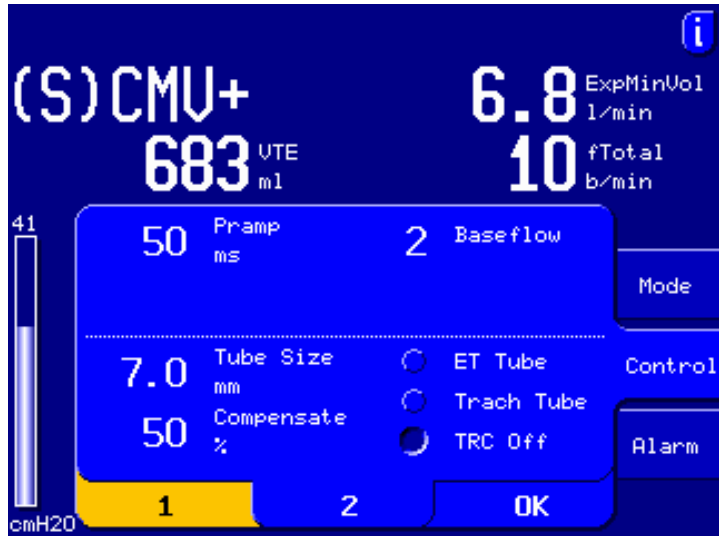

Figure 4-5. Control window 2
2. Control window 2 (Figure 4-5) automatically opens. The settings at the bottom of the window are tube resistance compensation settings (Section 4.6). Change any settings as described above.
3. Select **2** from the tabs at the bottom of the screen; activate it. Control window 2 (Figure 4-5) opens. The settings at the bottom of the window are tube resistance compensation settings (Section 4.6). Change any settings as described above.